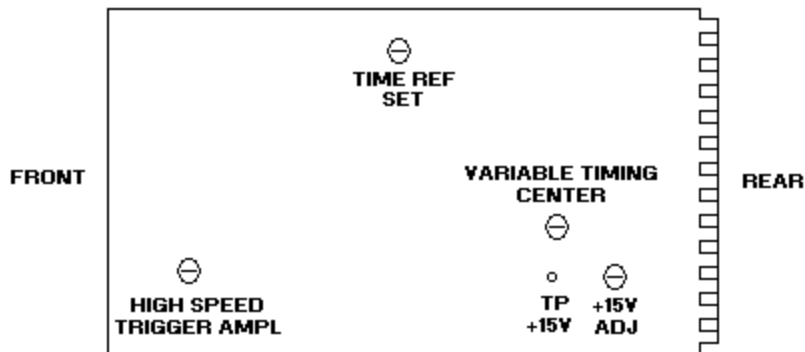

Figure 1. Main circuit board - component locations.
b. Adjustments. Adjust **TIME REF SET** (fig. 1) until frequency counter indicates 1.00000 μ s, or if required, for best intolerance condition on all ranges (R).
(1) Set **MARKER (SEC)** switch to **1m** and pull out **VARIABLE TIMING (OUT)** control.
(2) Adjust **VARIABLE TIMING (OUT)** control fully cw, then fully ccw while noting **VARIABLE TIMING** indication at each limit. If **VARIABLE TIMING** indication at each limit is not at least 7.5, perform **b** below.
(3) Connect frequency counter input to TI **MARKER OUT** using 50 Ω feedthrough termination.
(4) Set **MARKER (SEC)** switch to **.1m**.
(5) Adjust **VARIABLE TIMING (OUT)** control for a 0.0% **VARIABLE TIMING** indication. Frequency counter will indicate between 9.99 and 10.01 kHz.
(6) Adjust **VARIABLE TIMING (OUT)** control for a 5.0% **FAST VARIABLE TIMING** indication. Frequency counter will indicate between 10.49 and 10.51 kHz.
(7) Adjust **VARIABLE TIMING (OUT)** control for a 5.0% **SLOW VARIABLE TIMING** indication. Frequency counter will indicate between 9.49 and 9.51 kHz.
(8) Push in **VARIABLE TIMING (OUT)** control.
b. Adjustments. Adjust **VARIABLE TIMING CENTER** (fig. 1) until **VARIABLE TIMING** indication at each limit is at least 7.5 (R).
(1) Adjust **HIGH SPEED TRIGGER AMPL** (fig. 1) until amplitudes are within 0.1 V of each other (R).
a. Performance Check. Connect multimeter **INPUT HI** to TI **TP + 15V** (fig. 1) and **INPUT LO** to ground. If multimeter indication is not between 14.75 and 15.25 V, perform **b** below.
b. Adjustments. Adjust **+15V ADJ** (fig. 1) for a multimeter indication of 15.0 V (R).